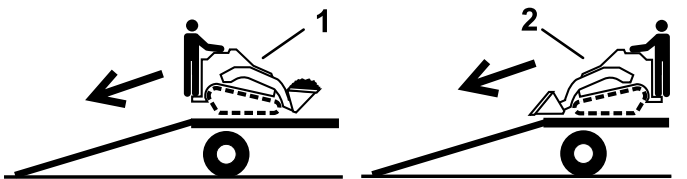

Figure 28
2. Unload the machine from the trailer with the heavy end up the ramp, carrying loads low (Figure 28).